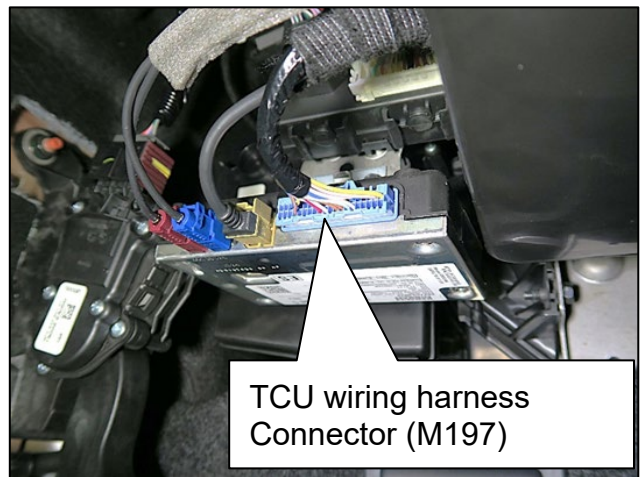

Figure 6
7. Disconnect the wiring harness connector located on the right side of the TCU (Connector M197 in Figure 6).